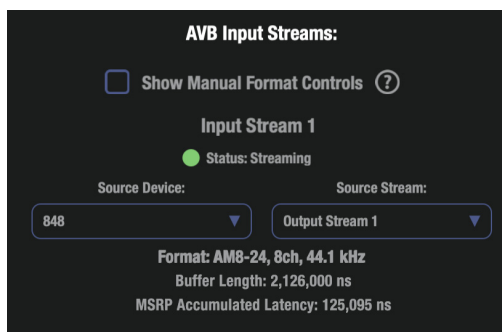
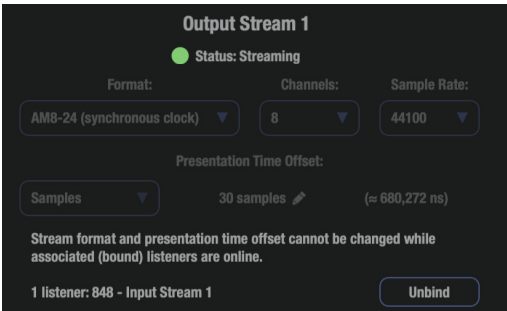

Figure 9-2: Connecting an input stream.
Figure 9-5: To make changes to the settings of an output stream, click the 'Unbind' button.
Input stream *Status* light (Figure 9-2) indicates the current state of the connection, as follows:
When connecting an input stream, the source device determines the stream format and number of audio channels in the stream. CueMix Pro displays the source stream *Format* settings below the menus, as shown in Figure 9-2.
Buffer Length (Figure 9-2) is the size of the listener's receive buffer. To avoid streaming errors, the presentation time offset of the source stream should never be set to a value larger than this buffer size. See "Presentation Time Offset" on page 76.
MSRP Accumulated Latency (Figure 9-2) is the highest possible amount of latency that could be introduced by the network for a particular AVB stream, as reported by any switches through which the stream passes on the network. This combined value represents the highest amount of latency
- 6 Connect one of the device's input streams to the 16A output stream, as demonstrated earlier in Figure 9-2. The stream is listed, along with any other listener streams, below the output stream, as shown in Figure 9-5.
Once a (listener) device input stream is connected to a 16A output stream, the output stream settings cannot be changed. To change them, click the *Unbind* button (Figure 9-5) to break the connection and make your changes. Then, reconnect the stream as usual.
Output stream status light (Figure 9-5) indicates the current state of the connection, as follows:
Ultimately, the listener's Buffer Length and reported MSRP Accumulated Latency (Figure 9-2 on page 73) can be used to determine an appropriate presentation time offset for a source stream. The source stream's presentation offset should not be lower than the MSRP Accumulated Latency, as reported by the listener, or higher than the listener's buffer length. See "Buffer Length" and "MSRP Accumulated Latency" on page 74.
4 Go to the Device tab. In the *AVB Input Streams* section choose the 16A as a source device for one of the streams and choose *Media Clock* for its *Source Stream* (Figure 9-2 on page 73), if available. If not, choose any available input stream from the menu.